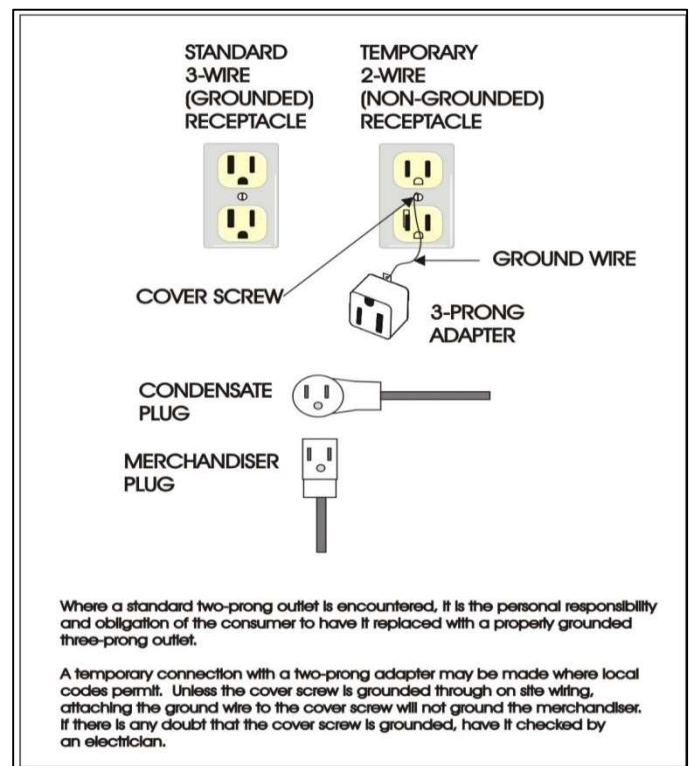

Figure 1: Grounding
2) Assemble Spring Cartridge. Grease bushing end of pin prior to insertion into Stationary Bushing. Apply a small amount of grease to the hinge-pin hole on the end of the Adjustment Collar Assembly. (Fig. 1).